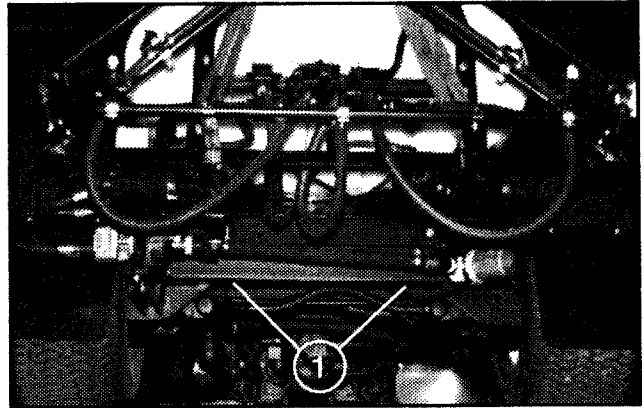

Figure 22
4. The rear jacking points are on the rearmost frame support, between the angle welds. (Fig. 22)